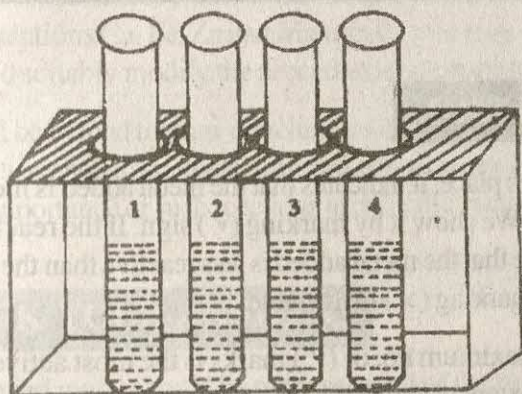

Fig. 3.1: Study of activity of different metals
Take four test tubes and mark them (1), (2), (3) and (4). Fill them half with 10% solution of a magnesium salt. Place them in the test tube stand as shown in Fig. 3.1.